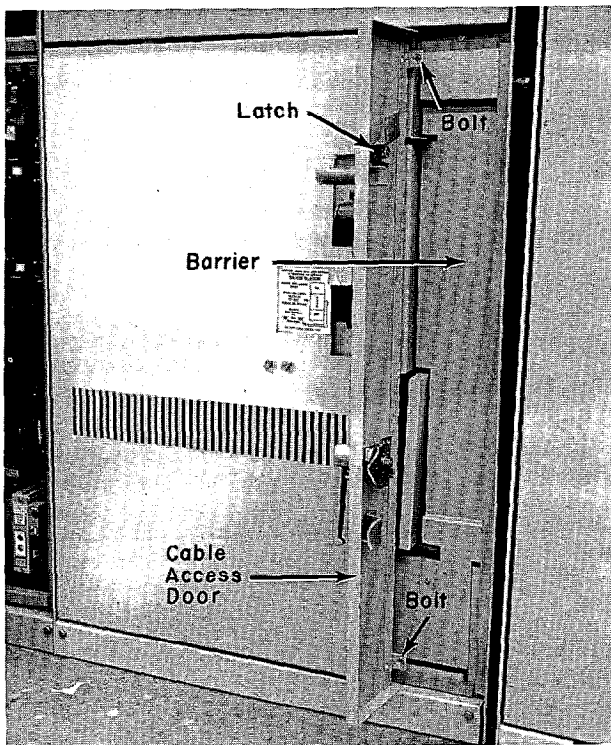

Fig. 64. Cable access door open on lower compartment, exposing barrier.
- b. Remove the barrier to allow access to the cabling compartment (Fig. 64).